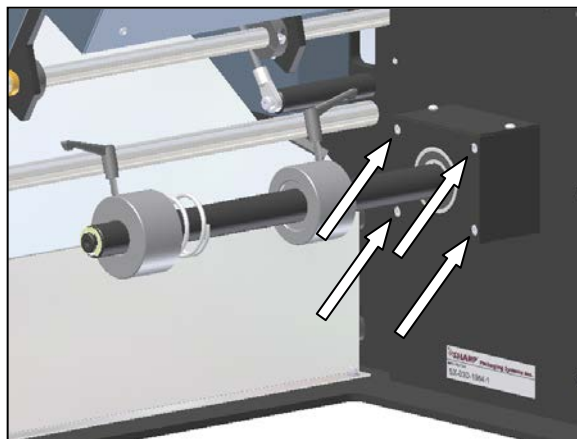

Figure 3-370. Unwind Plate Mounting Screws
2. Remove the four unwind bearing plate mounting screws shown in Figure 3-370.